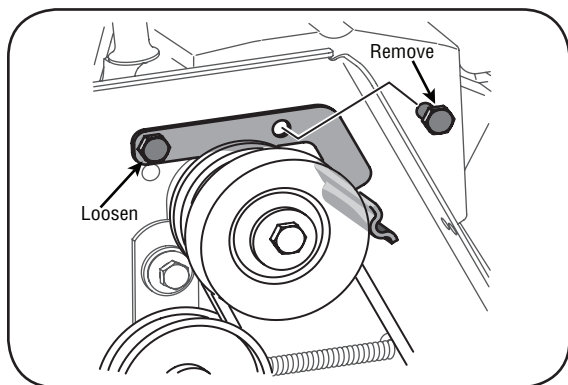

Figure 24
3. a. Loosen the bolt shown in Figure 24 securing the belt keeper bracket and remove the other bolt.